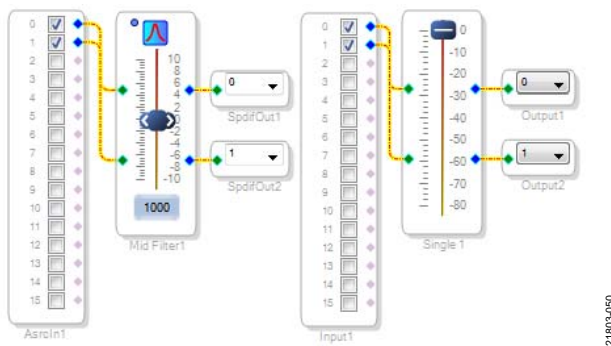

Figure 51. Completed Signal Flow
3. Connect the filter in series between the **Asrcin1** block and the **SpdifOut1** and **SpdifOut2** blocks to apply the filter to the signals passing through the DSP. The completed signal flow resembles Figure 51.
5. To change the settings of the filter, click the blue icon at the top left of the **Mid Filter1** block (see Figure 51). To change the filter gain in real time while the project is running, drag the control slider in the **Mid Filter1** block.
17. Click the **Link/Compile/Download** button (see Figure 28) or press the **F7** key to compile the signal flow and download it to the evaluation board hardware. The audio signal passes from the S/PDIF receiver through the ASRCs into the DSP and the filter, and then out on the S/PDIF transmitter. To change the settings of the filter, click the blue icon at the top of the **Mid Filter1** block (see Figure 51). Drag the control slider in the **Mid Filter1** block to change the filter gain in real time while the project is running.